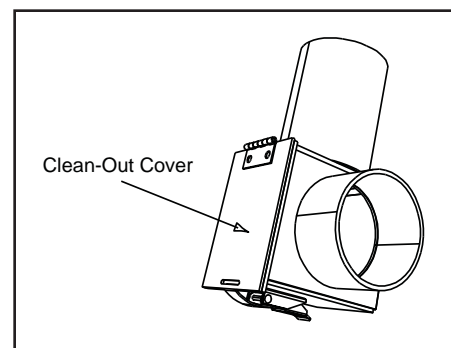

**Figure 20.2**
3. Drill 4 holes with #26 drill bit (provided) into the back of the appliance using the outer shield as a pattern (make sure the assembly is vertical). **Figure 20.2.**
7. To clean the top vent adapter open the clean-out cover. **Figure 20.2.**